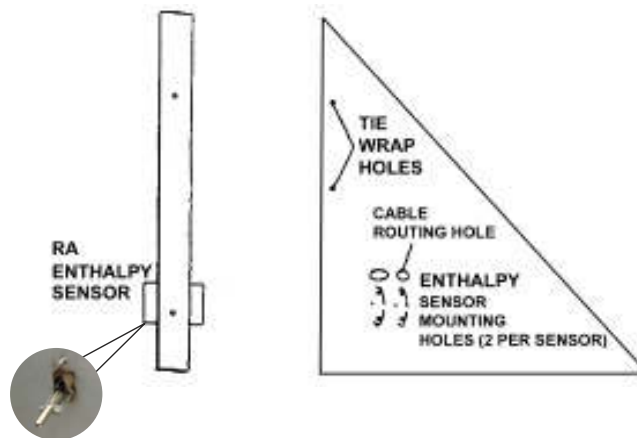

Figure 17 - Component location on RA/OA
On dual enthalpy units: mount the second enthalpy sensor on the opposite surface in the return air. Use two self-tapping screws to secure. See Figure 17.
- e. Locate the discharge air sensor mounting location on the heating section wall. Mount the sensor bracket provided with one self-tapping sheet metal screw. See Figure 17.